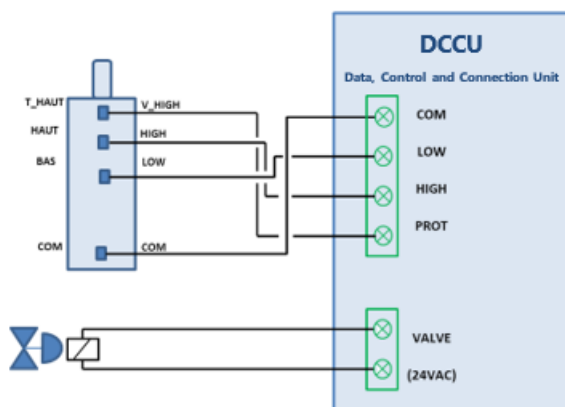

Figure 55 - Connecting Water Level
- ☐ Connect the 4 cores to the connector on J20 (see Figure 55 - Connecting Water Level).
- ☐ Connect the 2-core wire from the valve solenoid to the connector on J20 marked (VALVE 24VAC) according to Figure 55 - Connecting Water Level. Polarity is not important.